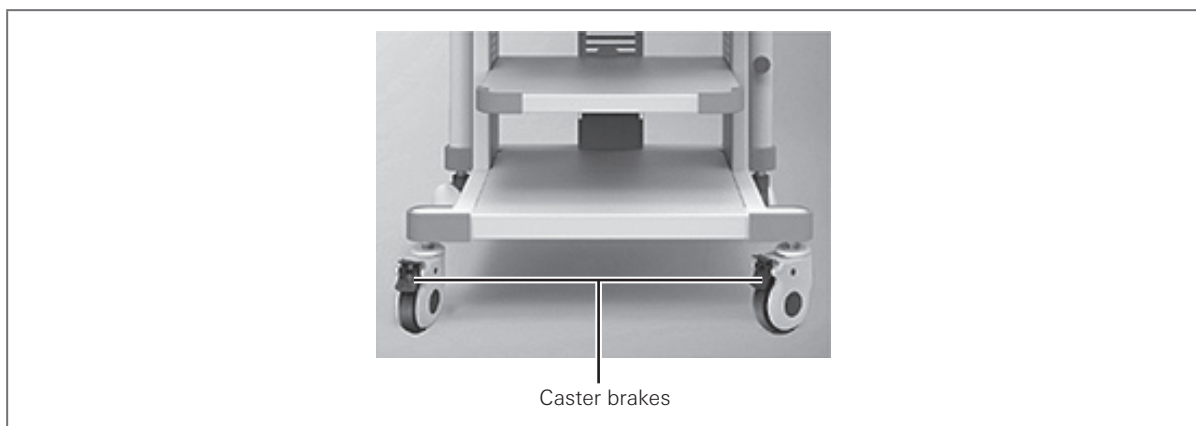

Figure 3.2
1. Place the mobile workstation on a level surface. Lock the caster brakes as shown in Figure 3.2.